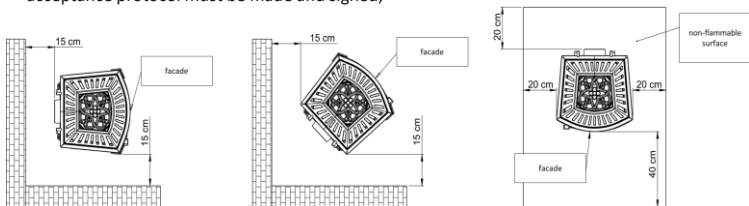

Fig. 2. Safe distances of the stove from non-flammable parts.
- the stove must be placed on the nonflammable surface extending for min. 0,4 m from the stove and min 0,2 m measuring from the sides and the back of the stove (See Fig 2),
- the recommended distance from NON-FLAMMABLE parts is not less than 15 cm (Fig. 2)